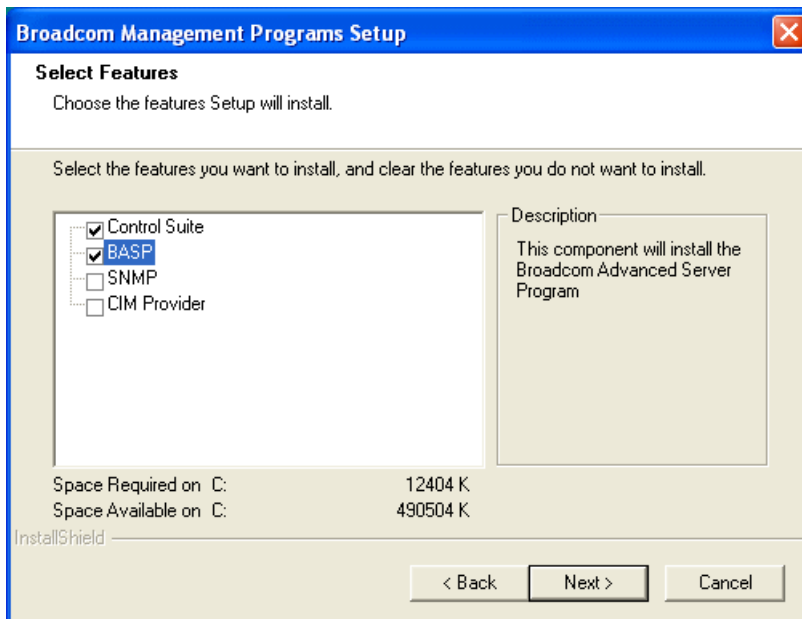

Figure 6-8 Select Features window
2. Click **MANAGEMENT PROGRAMS**, and a window similar to Figure 6-8 opens.